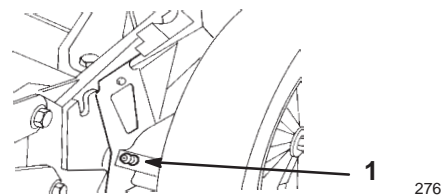

Figure 26
1. Wipe the grease fittings on the rear cutting height levers with a clean rag (Fig. 26).